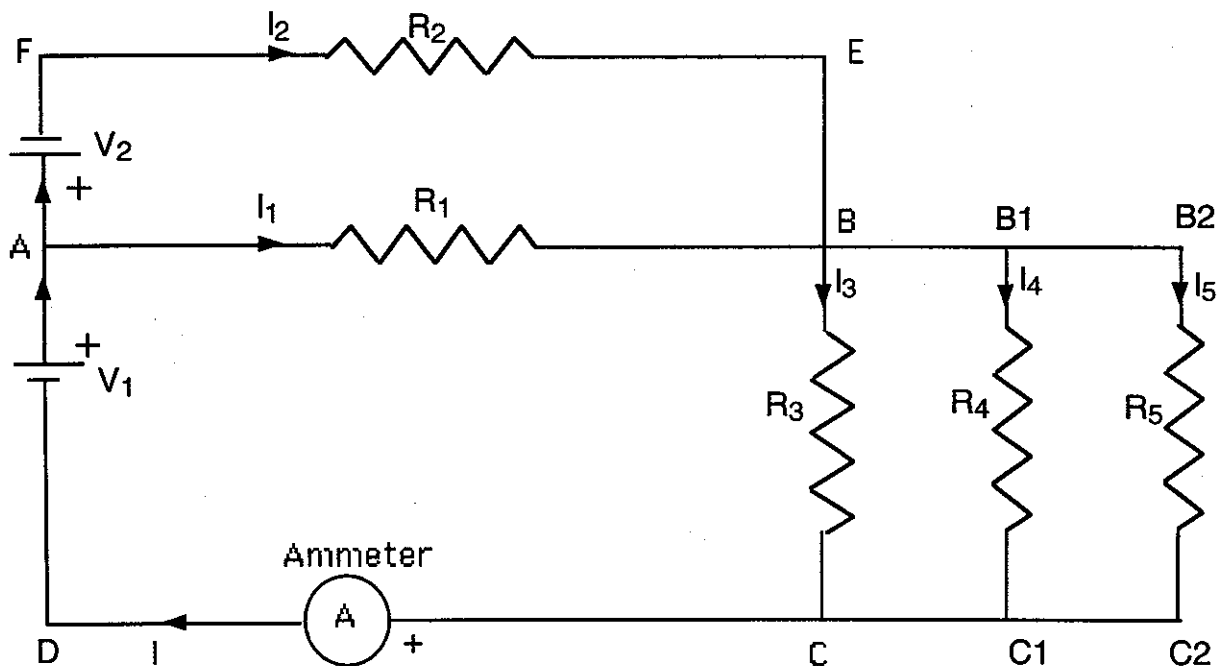

Fig. 2.1
In an electrical circuit, a junction where more than two currents meet is called a point. For example, in Fig. 2-1, A, B and C are points.
In Fig. 2-1, ABCDA, AFEBA, BB1C1CB, etc., are loops.
For example, in Fig. 2-1,
5. In Fig. 2.1, why are points C, C1, C2 and D, in effect, are one point? Remember that there is an ammeter between points C and D.